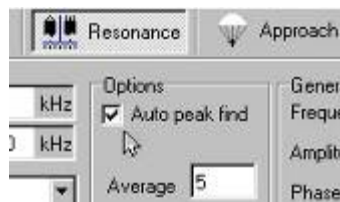

Fig. 4-4
2. Check a state of the frequency automatic tuning option. It is to be turned on as shown in Fig. 4-4;